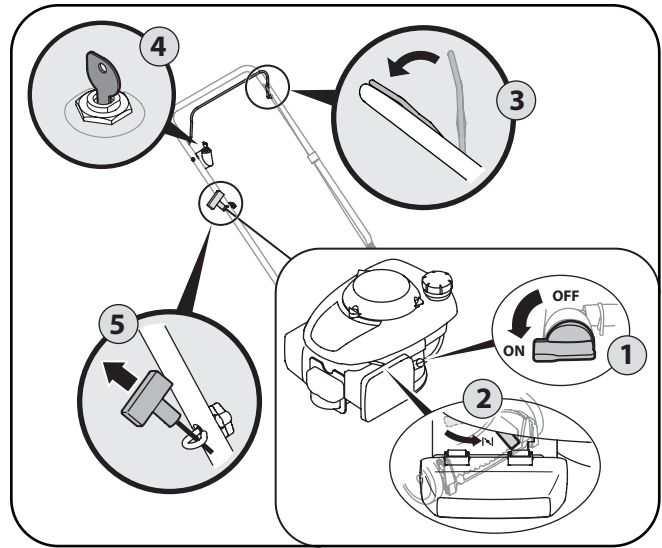

Figure 5-1
1. Place the fuel valve lever found on the left side of the engine into the ON (OPEN) position, Fig. 5-1.
Turn ignition key to the right to start the engine. Release the key after the engine starts. See Figure 5-1.